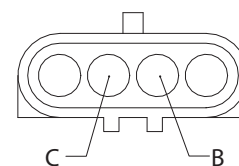

Figure 25
5. Attach multimeter leads to pins "B" and "C" of limit switch connector (see Figure 25). This contact is normally open and closes when pressed.